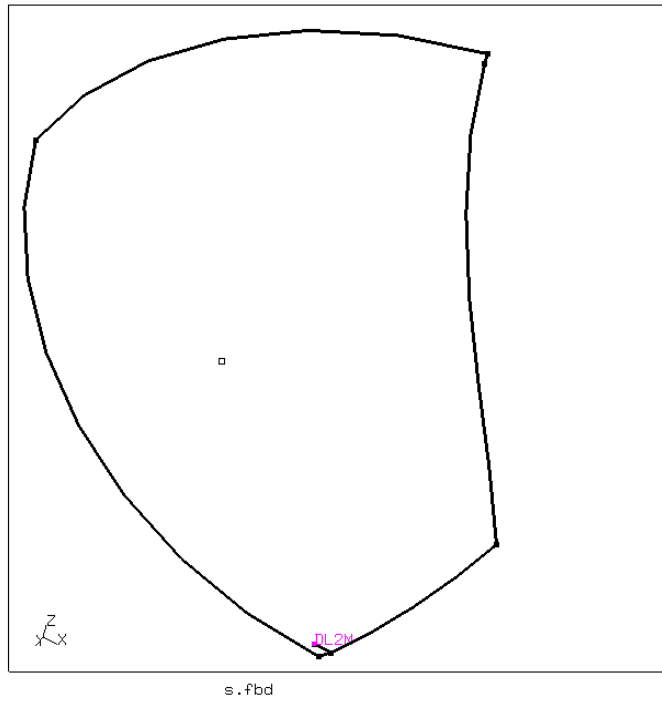

Figure 15: CAD-surface with a sliver or scratch
- Sometimes a surface is not meshable because a line runs right into it (a sliver, see figure 15). The following commands can be used to remove it: